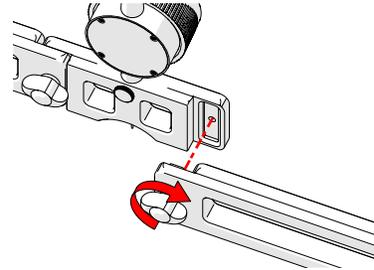

Fig. 7: Tighten thumb screw
- ▶ Align the receiving component's hole (centre base, blind side base, arms) with the thumb screw (Fig. 7) of the connecting component.